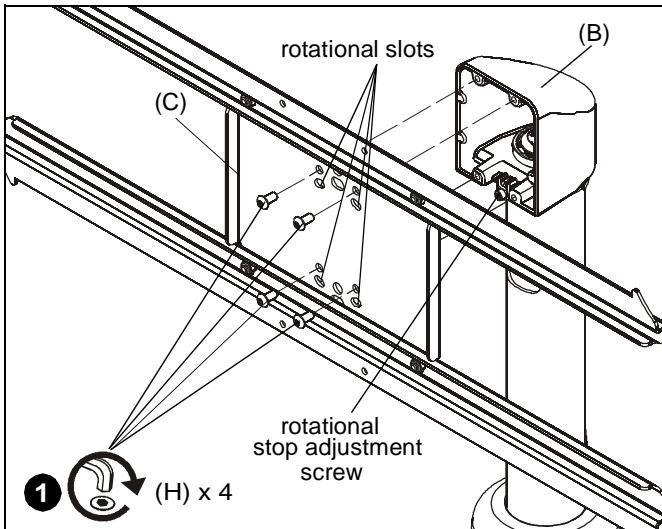

Figure 1
1. Use four 1/4-20 x 1/2" button head cap screws (H) to secure table stand (B) to table stand interface (C). (See Figure 1)
NOTE: If roll adjustment is desired, install through screws through rotational slots rather than the standard slots. (See Figure 1)
NOTE: In order to achieve a +/- 90° rotation radius while using the rotational slots, the rotational stop adjustment screw must be removed and replaced with #10-24 x 1/2" socket head cap screw (M). (See Figure 1)